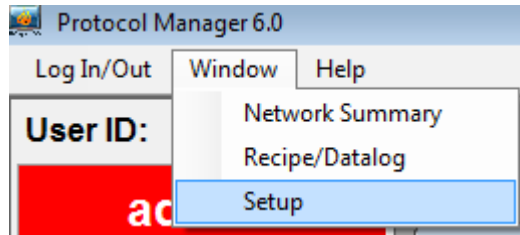

Figure 8: Setup Pulldown Menu
1. At this point the system must be set up. Move the cursor to the top of the screen and click on the **Window** prompt to reach the **Setup** pulldown. See Figure 8.